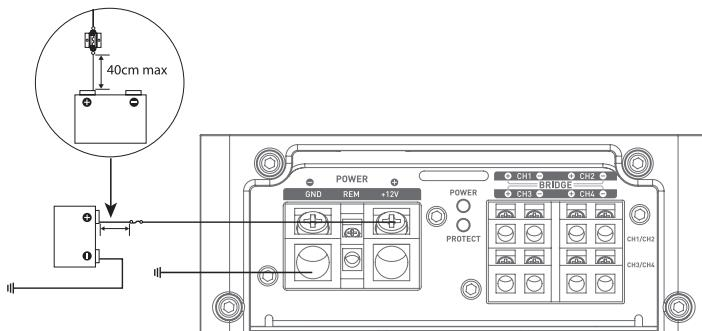

fig.7
- 9 - Always use fuses to protect the battery and the electrical circuit from any potential damage. Install a fuse-holder and an appropriate fuse in the 12V+ power supply cable less than 40cm from the battery terminal. Ideally, this distance should be as short as possible (*Fig. 7*).
Solder and insulate (using heat shrink sleeving) the positive (+) power cable to the FPX amplifier connector supplied (Fig. 7).